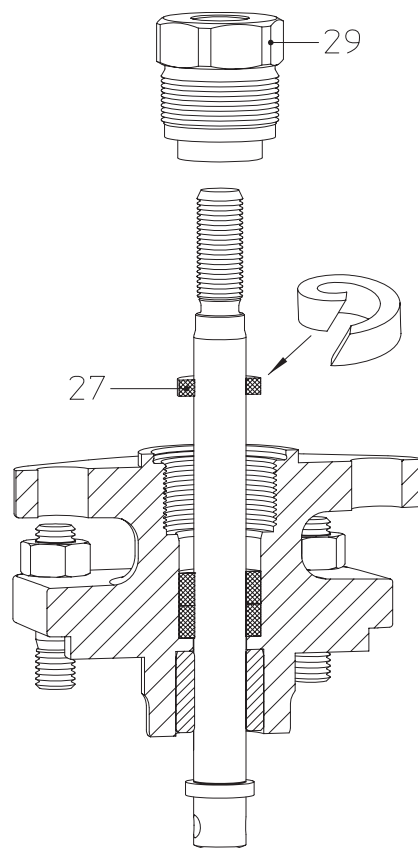

Fig. 5: Stuffing box packing
- Insert a new packing (pos. 27) as shown in Fig. 5.